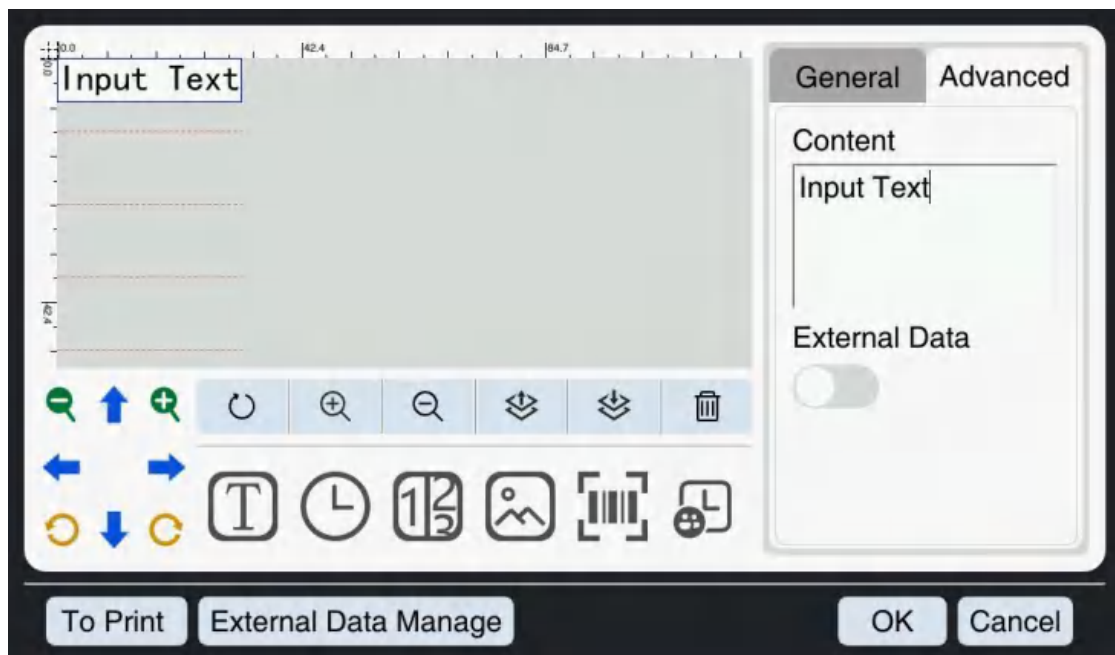

Figure 5-4 File Editing Interface
2、Clicking the  button, then enter the file editing interface. As shown in Figure 5-4. In this interface, you can enter the required information according to your own requirements.